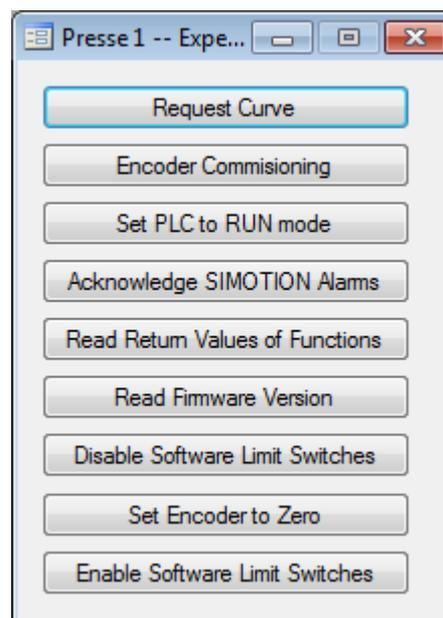

Figure 1: "Expert" control menu
1. **First of all, the emergency stop must be activated before the encoder can be recognized.** Then, in the project tree, right-click on the "Press" tab and, in the drop-down menu that appears, select "Expert Control". Once this menu is selected, the window in Figure 1 opens.